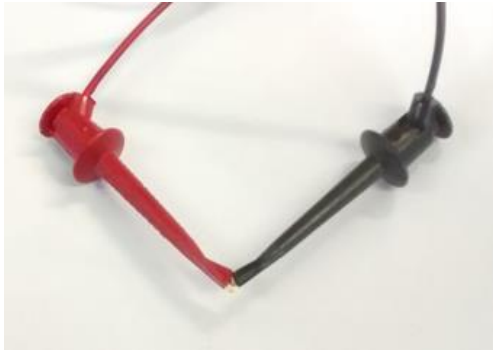

Figure 9-34: Short calibration
1. Connect the clips to each other as shown in Figure 9-34.